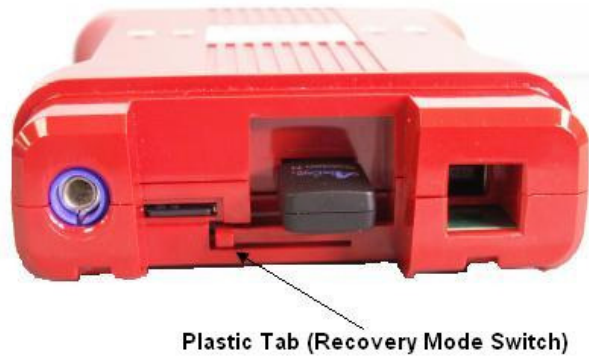

Figure 2: VCM II Rubber Boot Removed Exposing Recovery Mode Switch
4. Remove the rubber boot on the VCM II that is opposite the DLC connector to expose the Recovery Mode Switch (the plastic tab shown in Figure 2).